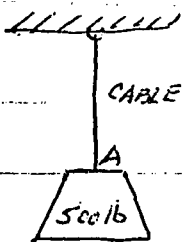
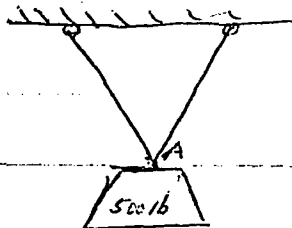
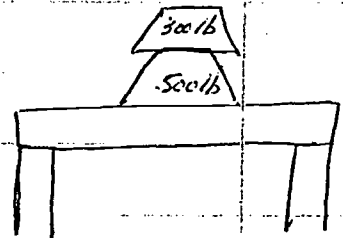

FIG. 1
FIG. 2
FIG. 3
in Fig. 1 in Fig. 2 in Fig. 3
2. What is the external force on the cable in Fig. 1?
3. What is the internal force in Fig. 1?